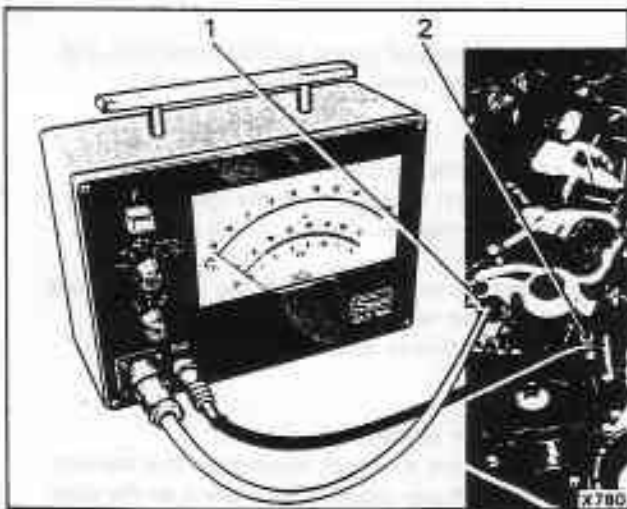

Fig. K11-25 Diagnostic tester connected to the engine
3. Connect a suitable diagnostic tester (e.g. Sun QST 104) to the engine (see fig. K11-25).
3. Connect a suitable diagnostic tester (e.g. Sun QST 104) to the engine (see fig. K11-25) and set the analyser to the eight cylinder, 0 to 1500 rev/min setting. Ensure that the mode button is set to read rev/min.
The test equipment settings are illustrated in figure K11-25.